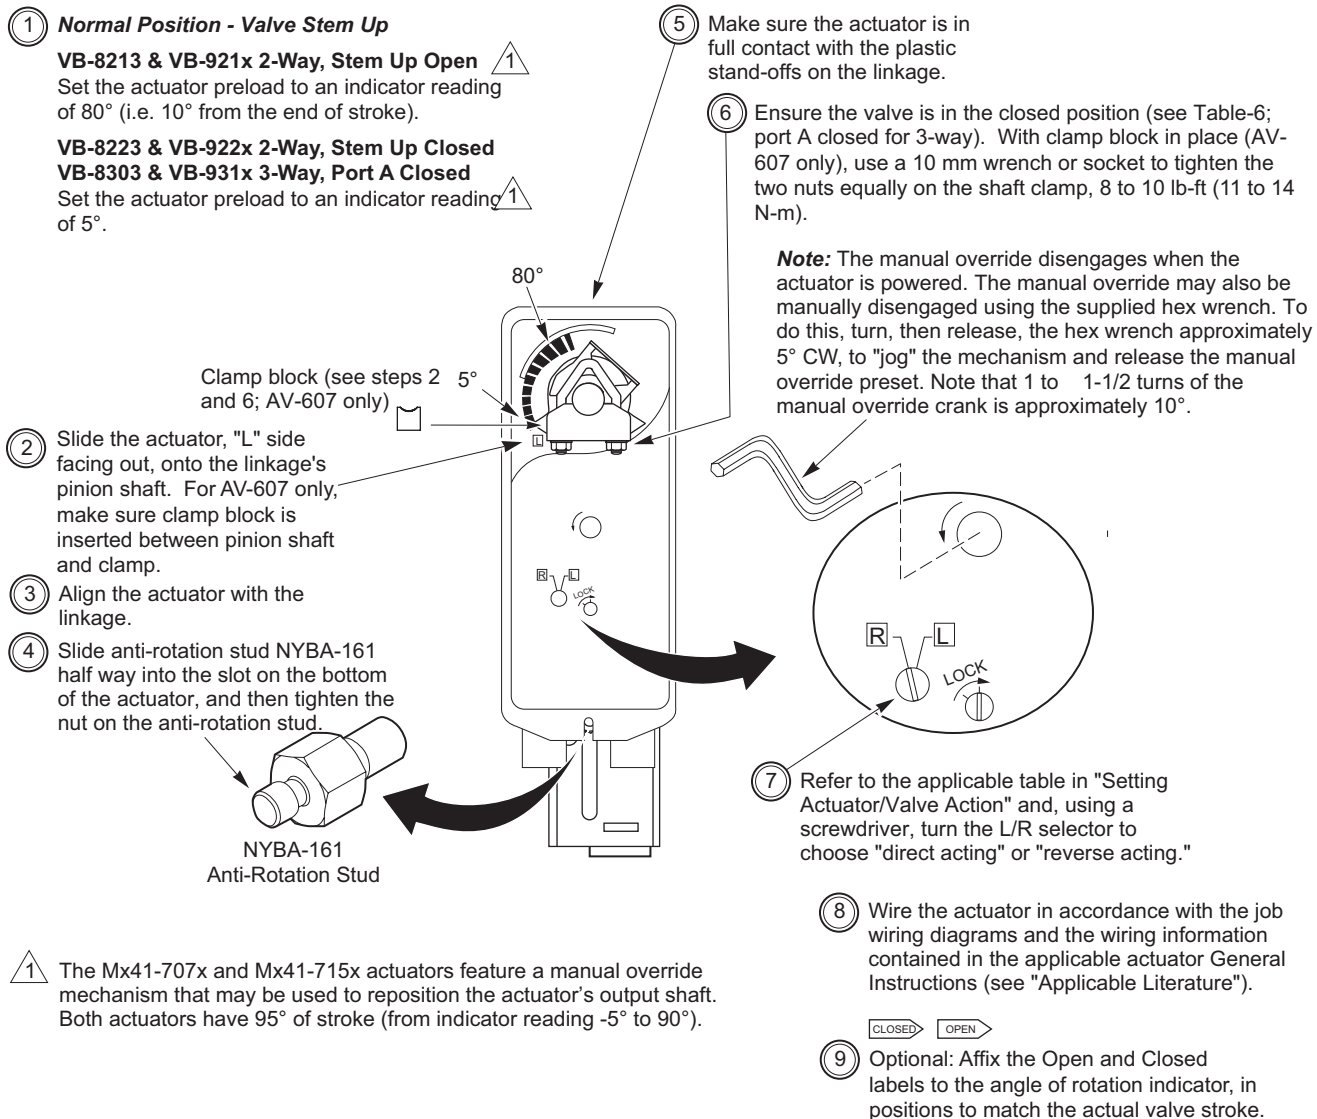

Figure-3 Mounting Mx41-707x or Mx41-715x and Setting Up Actuator/Linkage/Valve Assembly.
- a. Install the actuator onto the linkage and valve, and set up the assembly, according to Figure-3.